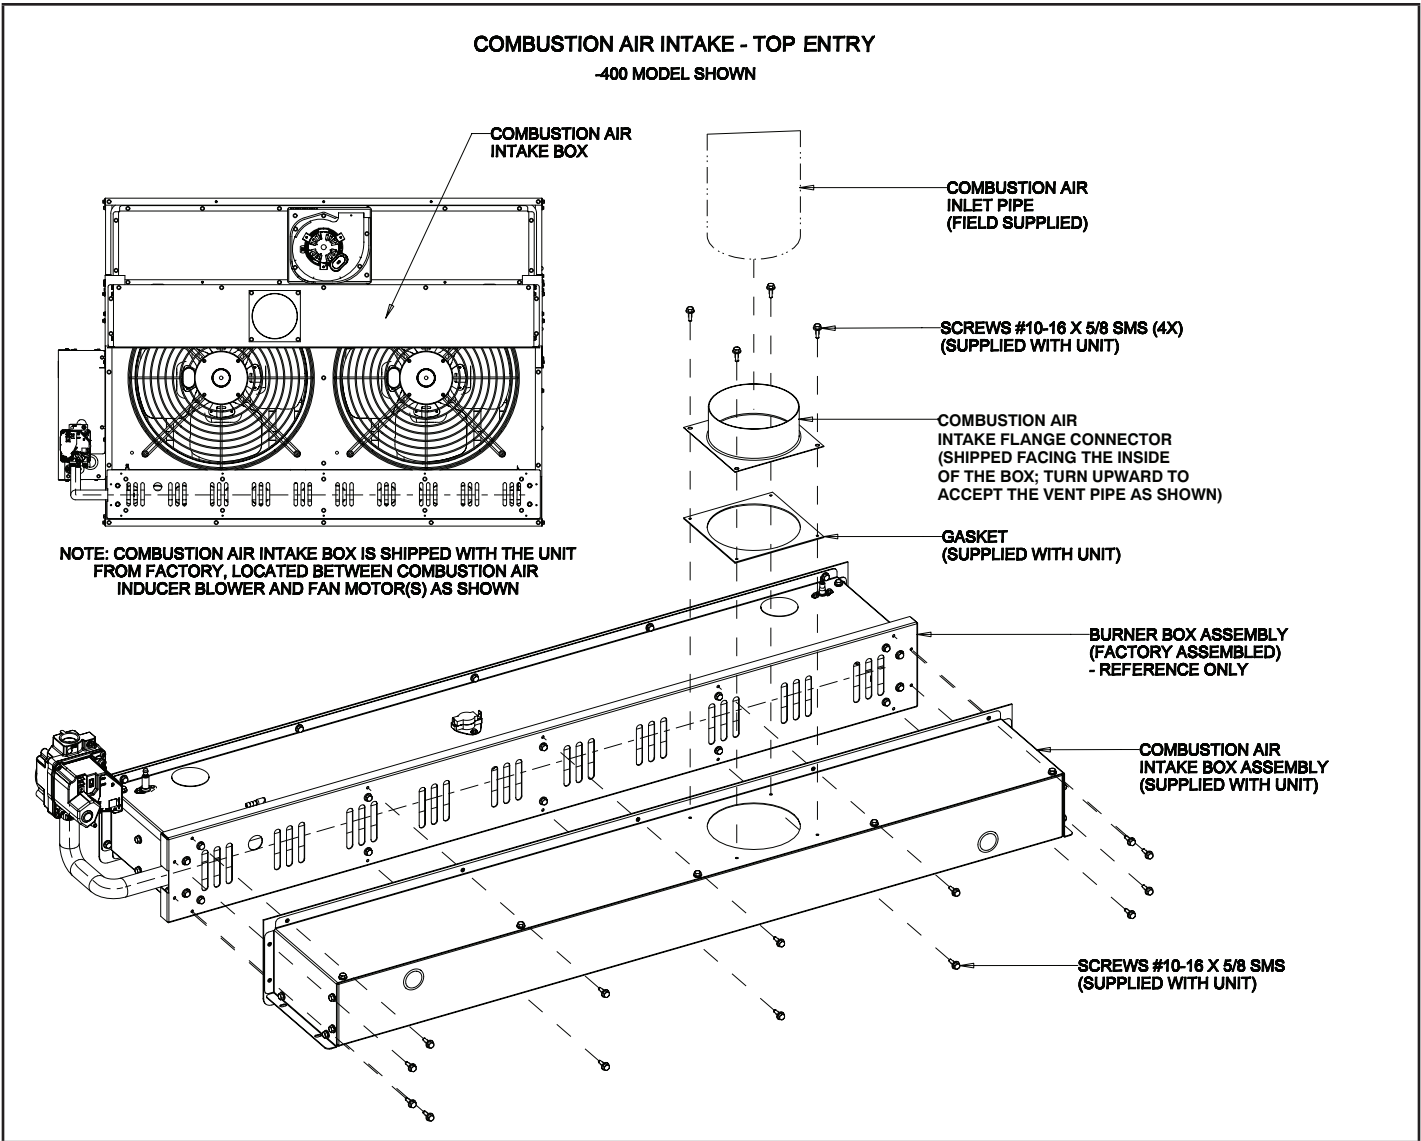
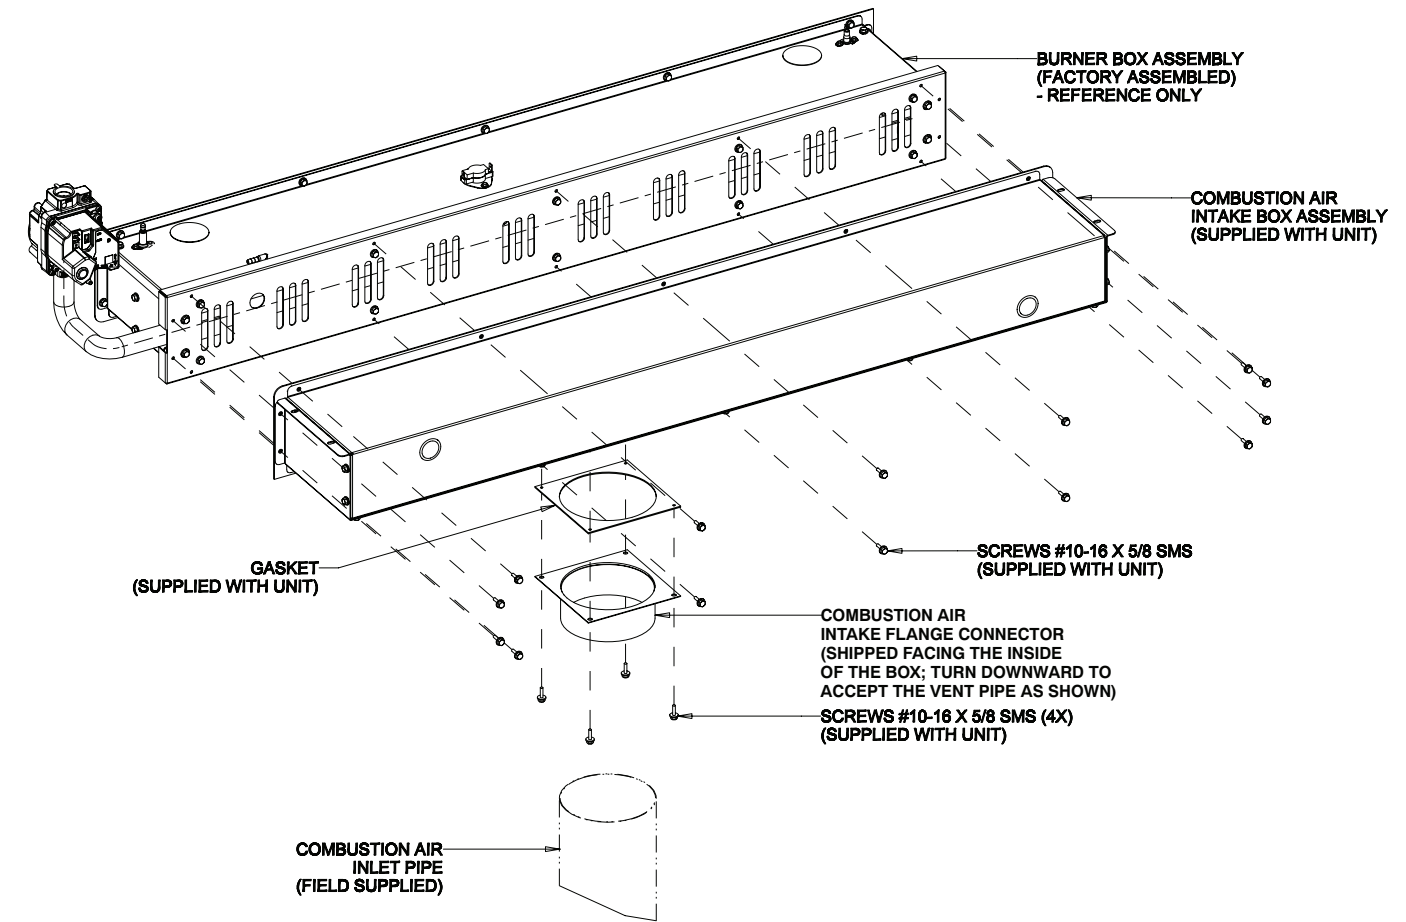

FIGURE 3
FIGURE 4
- 9 - Install the combustion air intake box. See figure 3 for top entry and figure 4 for bottom entry.
- 10 - The vent must extend at least 3 feet (1m) above the highest point where it passes through a roof of a building. The vent must also extend at least 2 feet (1m) higher than any part of a building within a horizontal distance of 10 feet (3m) unless otherwise specified by ANSI Z223.1 or CSA-B149 installation compliance codes. The vent must extend at least 5 feet (2m) above the highest connected equipment flue collar. Fit the combustion air inlet pipe over the flange connector on the combustion air inlet box. See figure 3 and 4.